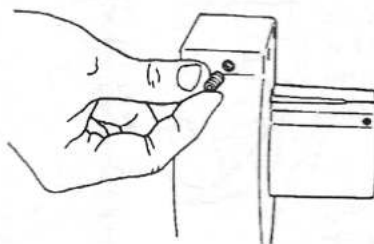

Fig. 1
1. Thread a socket setscrew (2) into each side of the guard (1), as seen in Fig. 1. Do not tighten yet.